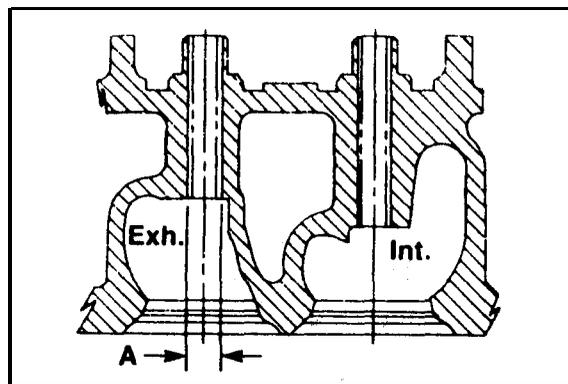

Figure 6-9
9. Machine cylinder head parent metal valve guide bores to dimension A (Figure 6-9).